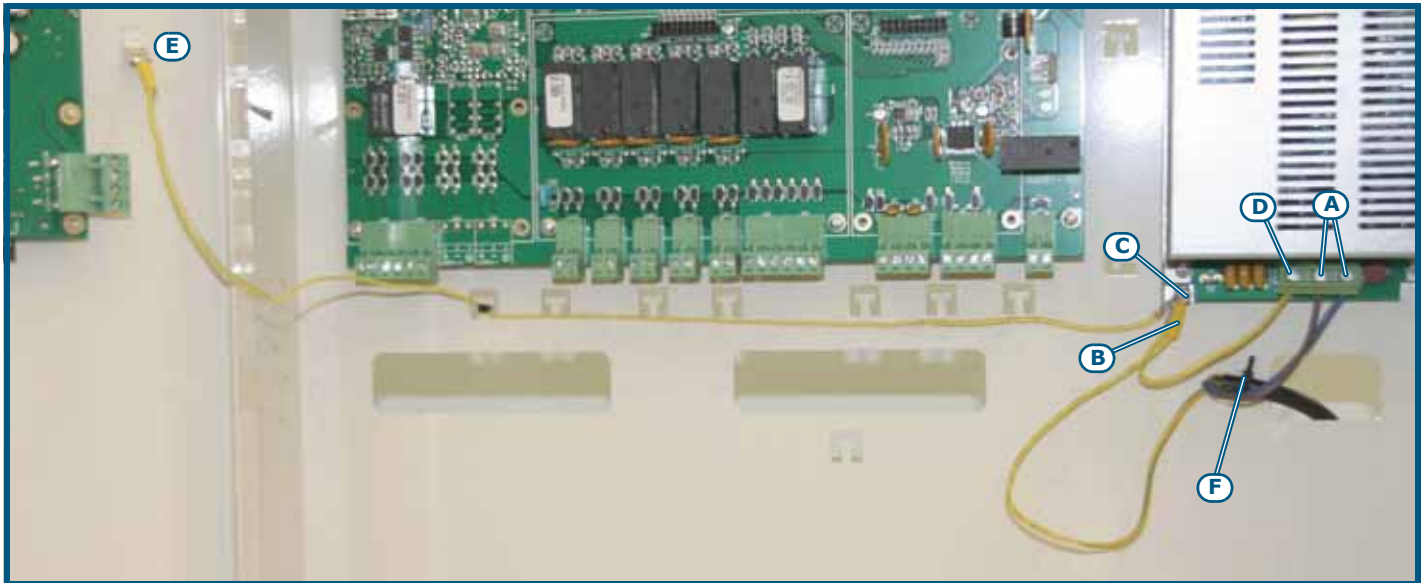

Figure 28 - Earthing system
1. Connect the mains power supply to the terminals on the power-supply module (*paragraph 4.4 - [A]* and *Figure 28 - Earthing system, [A]*).